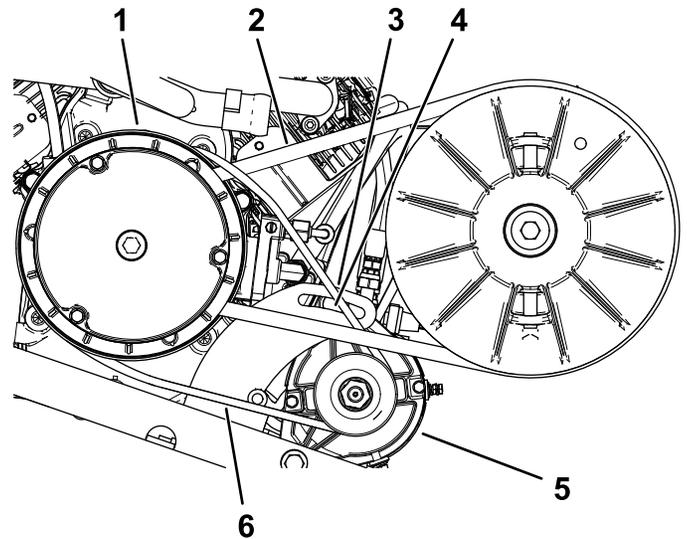

Figure 71
2. Loosen the pivot nut for the starter generator (Figure 71).
4. Apply downward pressure to the pry bar to rotate the starter down in the slot until the belt tension only allows 6 mm (1/4 inch) belt deflection with 44 N·m (10 ft-lb) of force (Figure 71).
5. Tighten the pivot nut by hand, and remove the pry bar (Figure 71).